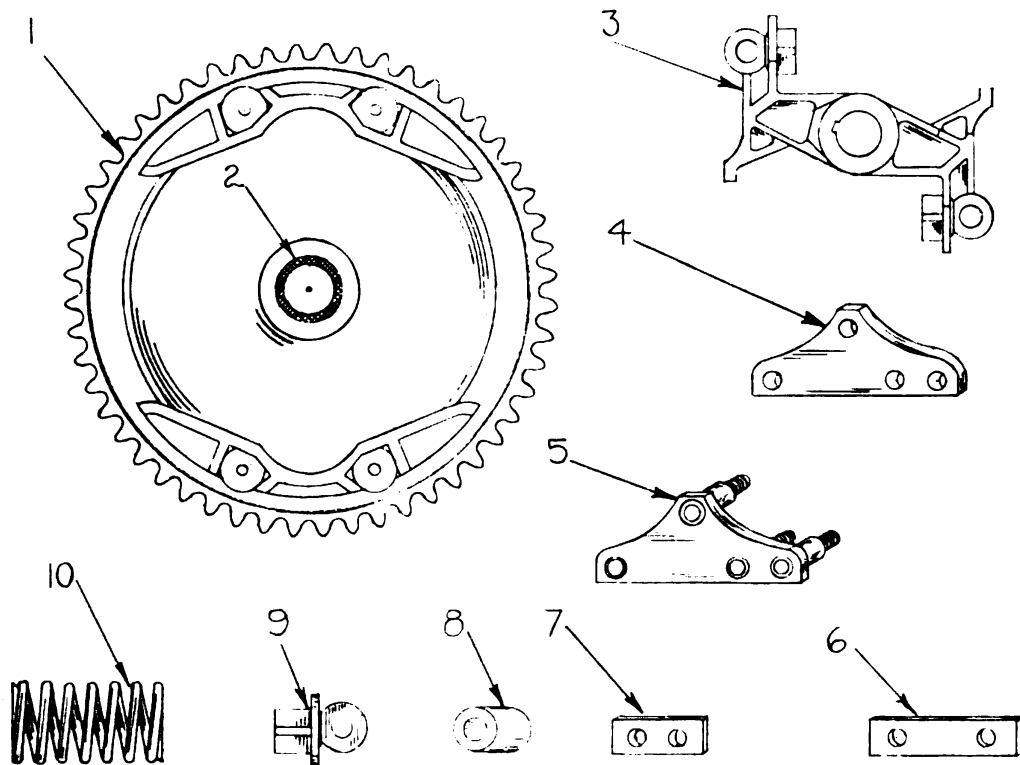

Figure 120. Overload release sprocket.
- (c) Remove guard which extends from pivot shaft to bearing patch (9).
- (d) Uncouple and remove chain driving overload release sprocket (10).
- (e) Remove bearing caps (5). Countershaft assembly may now be lifted out.
- (f) Bearing (4) next to overload release sprocket may be removed.
- (g) Loosen set screws and remove spring release sprocket hub (3), Figure 120.
- (a) Remove nuts and lock plates from pins in side bars (5), Figure 120.
- (b) Roller plates (4) may now be removed.
- (c) Rollers (8), spring retainers (9) and springs (10) may be removed after roller plate.